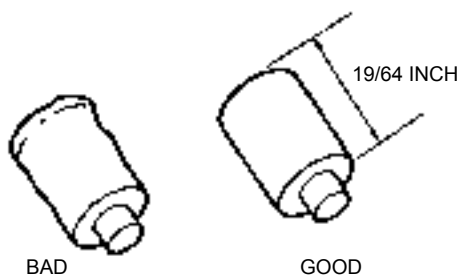

Figure 3.3.10
- A. Inspect the carbon brush. The overall length of the carbon brush must be greater than 19/64 in. and the OD of the brush diameter must be uniform. (See Figure 3.3.10). Carbon brushes that do not meet these limits must be replaced. Reference Section 7.13 of this manual.